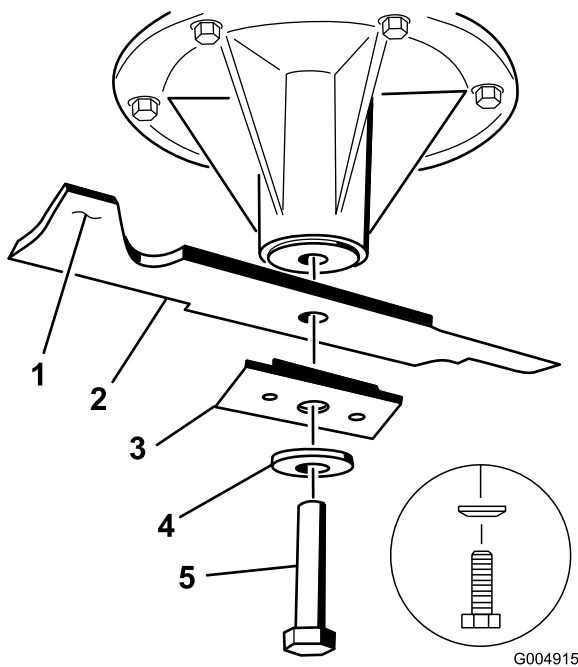

Figure 66
3. For 36 and 52 inch mower decks, remove the blade bolt, curved washer, blade stiffener, and blade from the spindle shaft (Figure 66).
3. For 36 inch and 52 inch mower decks, install the blade, stiffener, curved washer, and blade bolt (Figure 66).